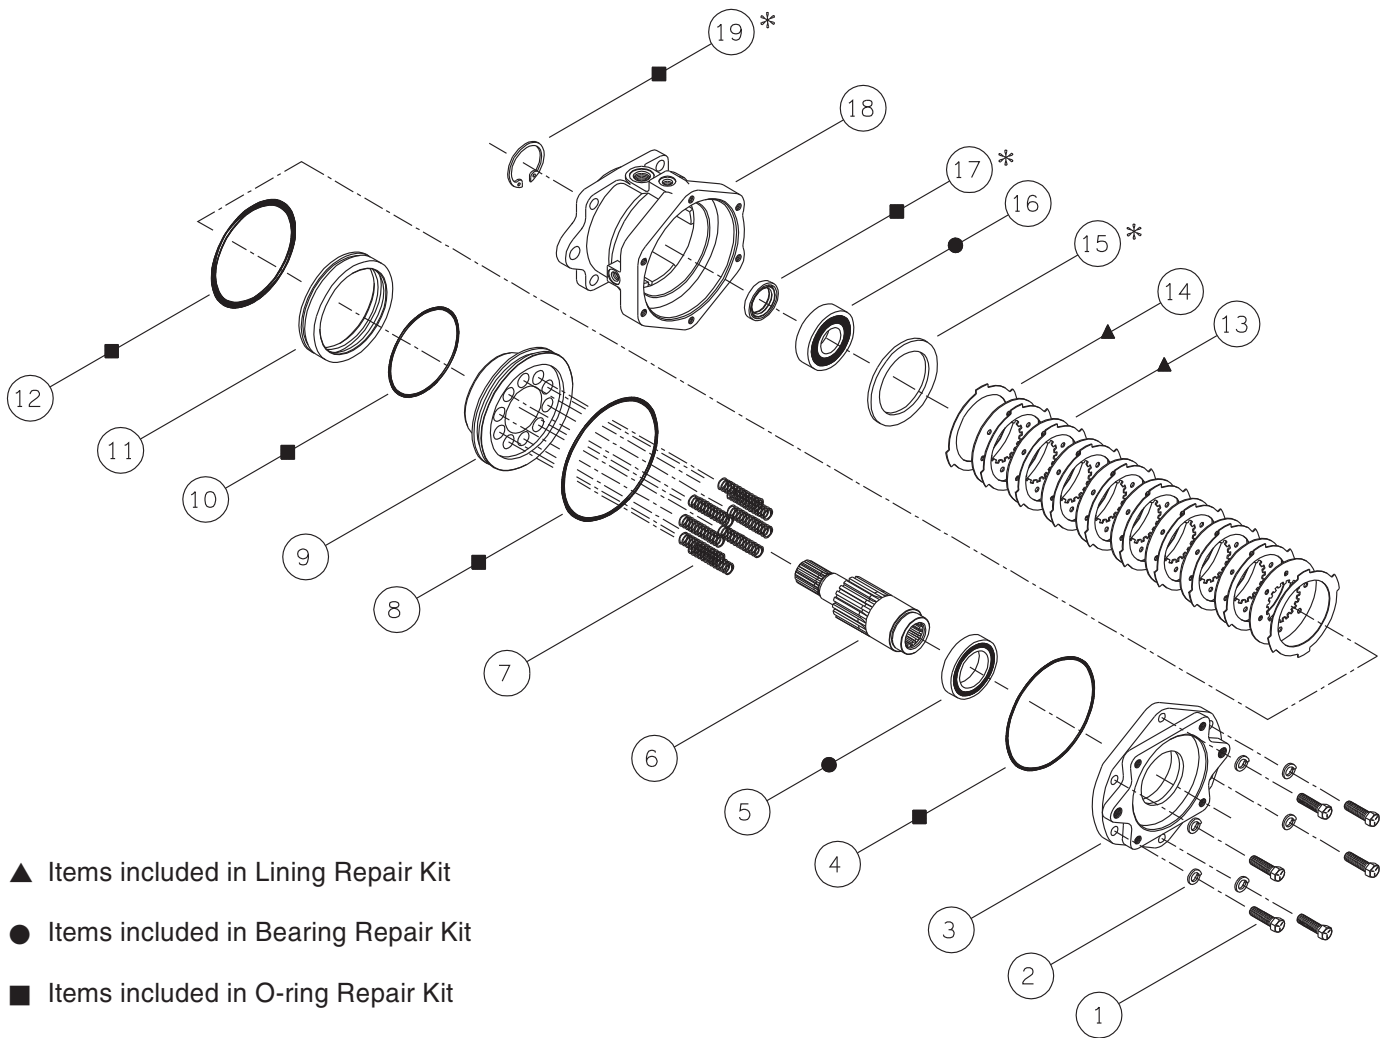

FIGURE 3
(Refer to Figure 3)
3. Damaged o-ring (12), Figure 3